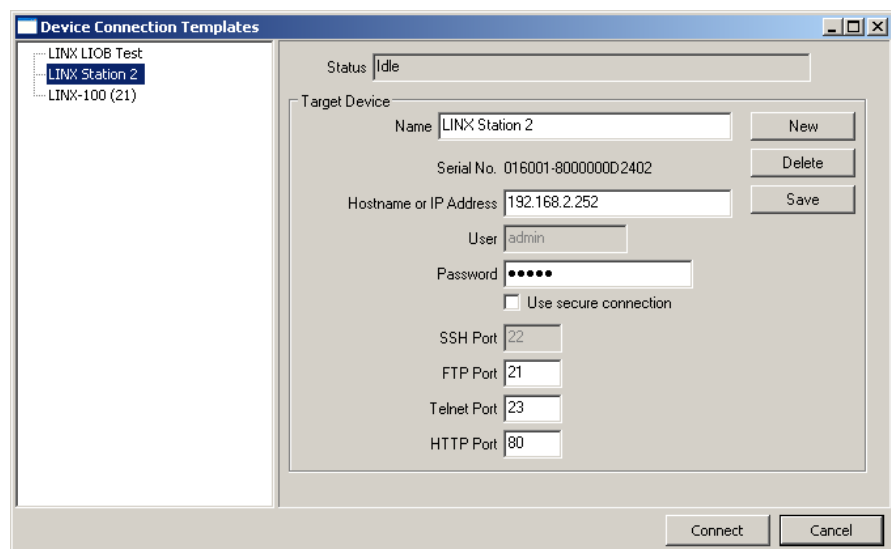

Figure 45: FTP connection dialog.
2. Select the menu: **Connection** → **Connect via FTP**. This opens the FTP connection dialog as shown in Figure 45.